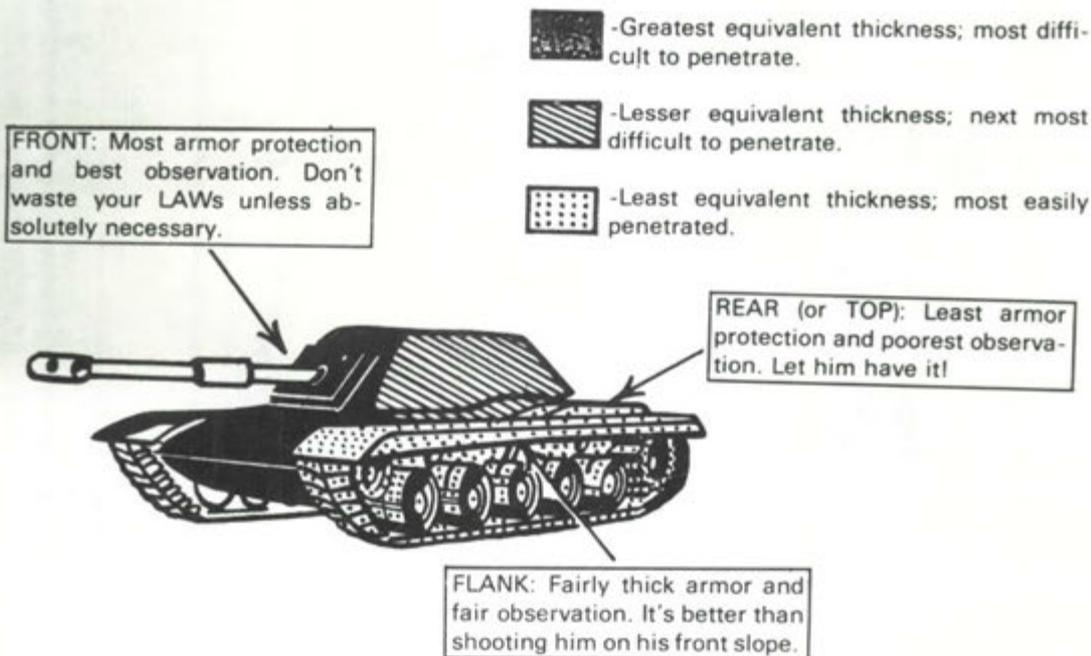

Figure 4.
(2) Tank vulnerability. The most vulnerable areas are those where armor is thinnest (figure 4). When possible, you must direct your attack against the most vulnerable areas.